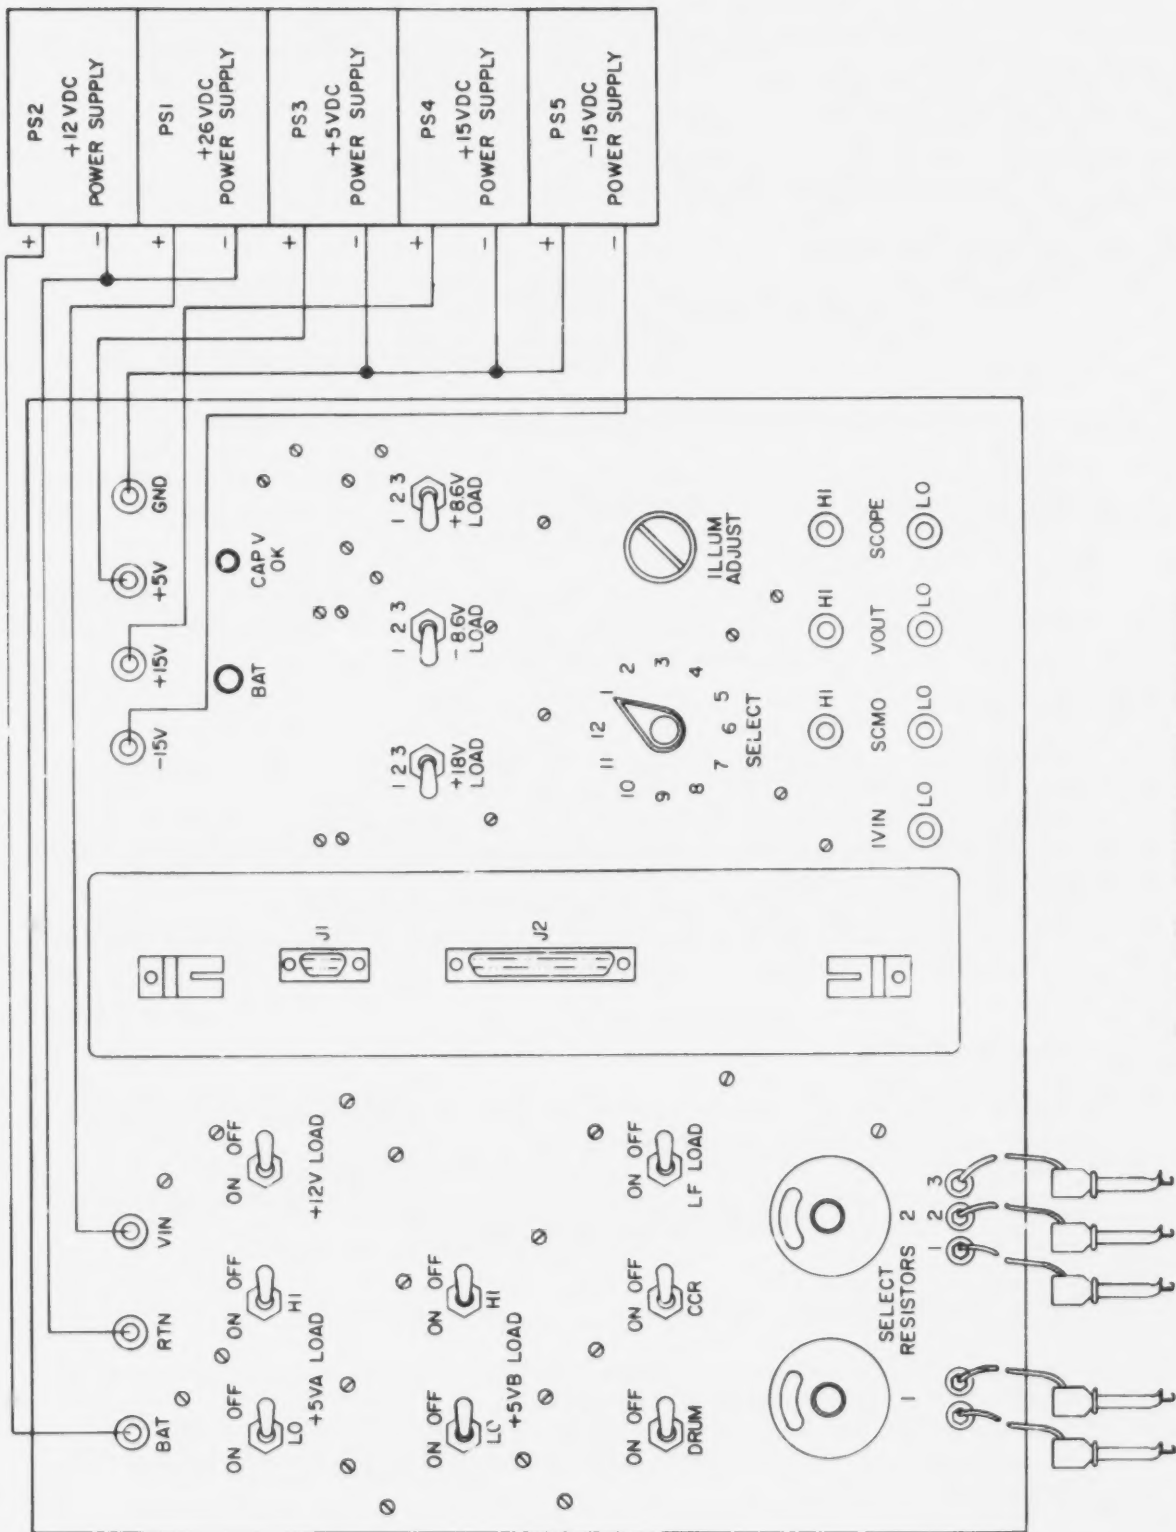

Figure 6-22. POWER SUPPLY UNIT (PSU)
d. Test Setup Procedure for Power Supply (fig. 6-22).
6-28. POWER SUPPLY ADJUSTMENTS (fig. 6-22)
a. +5V(A) Adjustment.
- Set up power supply test figure configuration as described in paragraph 6-27d and figure 6-22.